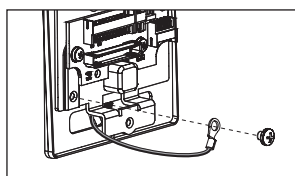
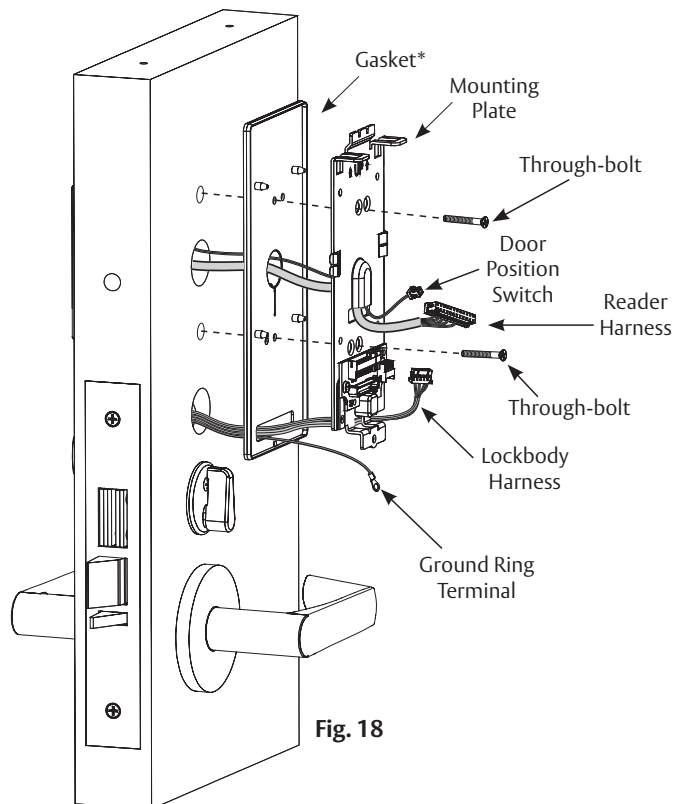

Fig. 19
Fig. 18
- d. Feed reader harness and DPS connectors through inside mounting assembly and gasket if required*. (Figure 18)
- IMPORTANT:** Do not run wires through bottom flange hole in plate - it will damage wires and controller connector. (Figure 18, Figure 19) Route wires around flange. (Figure 19)
- f. Begin to secure mounting assembly by partially tightening two (2) through-bolts on inside of door while ensuring proper alignment as reader is secured. (Figure 18)
- g. Secure ground lug with #6-32 machine screw. (Figure 19)
- If installing with gasket, separate gasket from mounting plate to feed cables/connectors through holes as indicated (Figure 18)